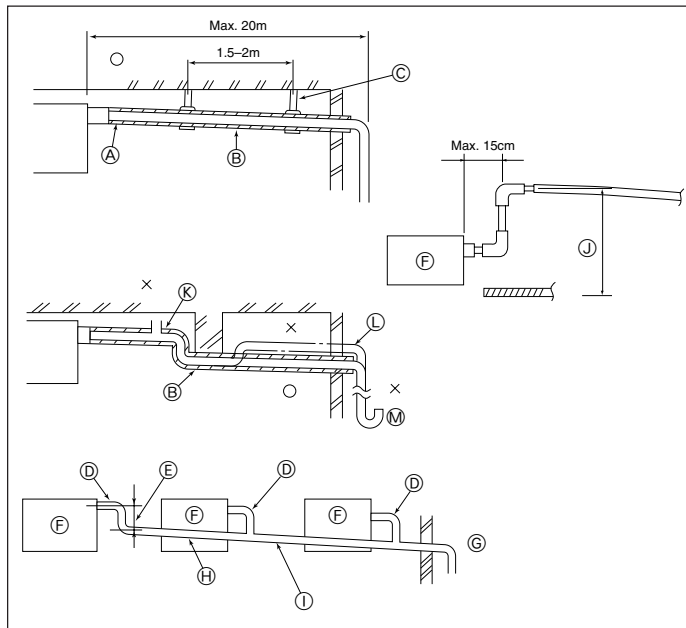

Fig. 3-4
- ① Wrap the enclosed large-sized pipe cover around the gas pipe, making sure that the end of the pipe cover touches the side of the unit.
- ② Wrap the enclosed small-sized pipe cover around the liquid pipe, making sure that the end of the pipe cover touches the side of the unit.
- ③ Secure both ends of each pipe cover with the enclosed bands. (Attach the bands 20 mm from the ends of the pipe cover.)
3.4. Drainage piping work (Fig. 3-4)
- ① Correct piping
- ② Wrong piping